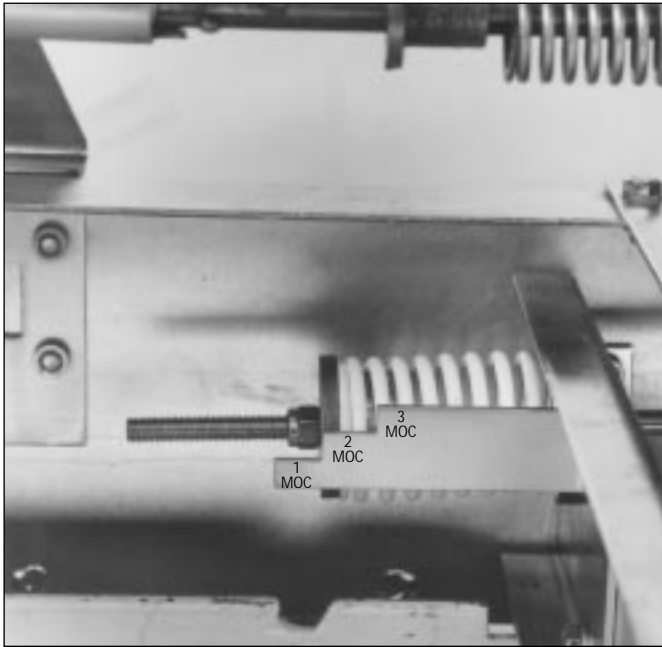

Figure 4-5 Drive Spring Shown Adjusted for 2 MOC Switches
Step 5: Refer to Figures 4-5 and 4-6 to see the drive spring adjusted for 2 installed MOC switches and 3 installed MOC switches respectively.